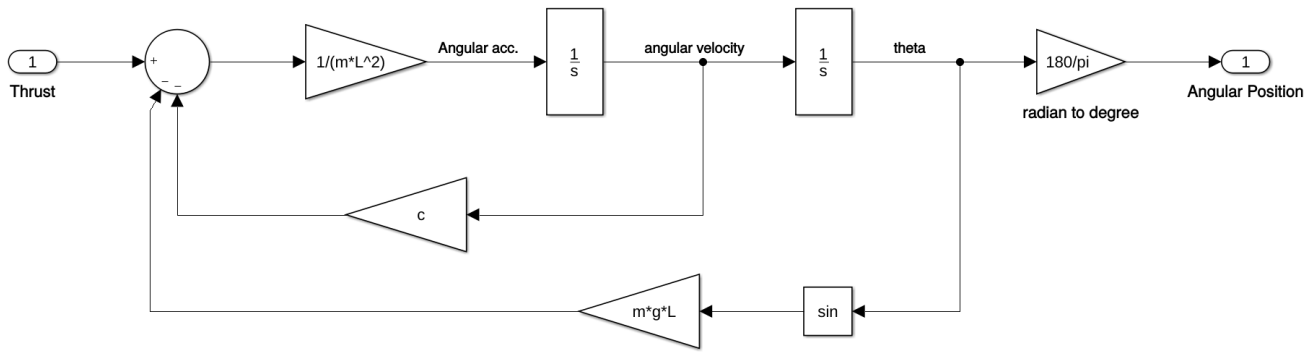

Figure 3
- (b) In Fig. 3, X, Y and Z stand for angular position (θ), angular velocity ($\dot{\theta}$) and angular acceleration ($\ddot{\theta}$) respectively.